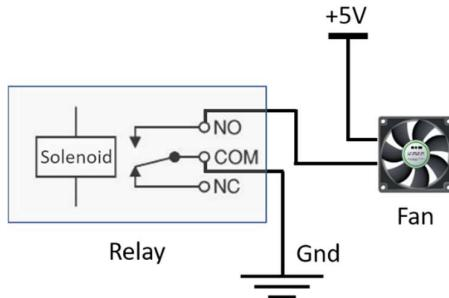

Figure 10.5: Circuit diagram to connect fan.
- 17) Connect a fan as shown in Figure 10.5.